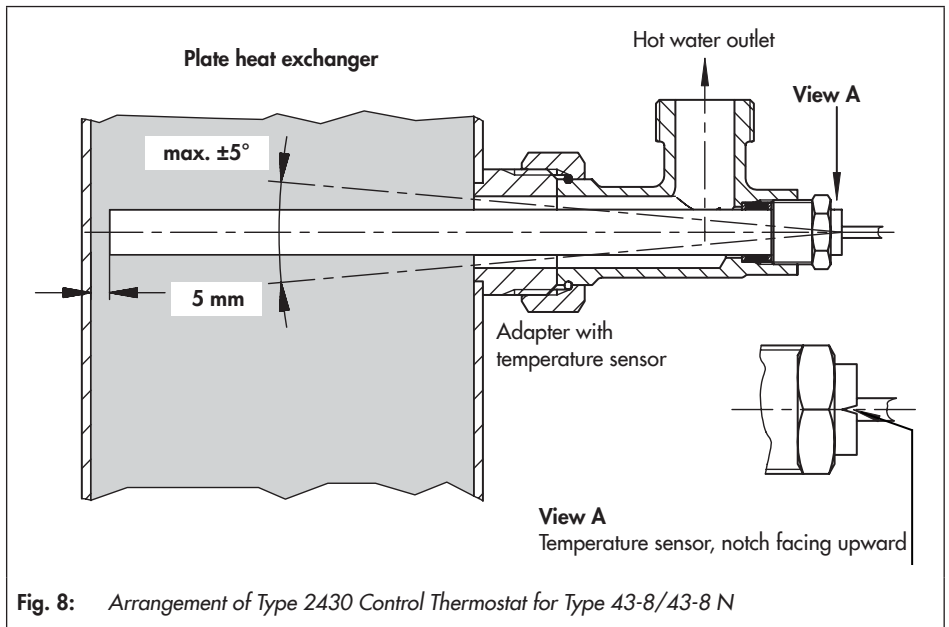

Fig. 8: Arrangement of Type 2430 Control Thermostat for Type 43-8/43-8 N
- The notch at the end of the sensor must point upward (see Fig. 8).
- Install the sensor pocket (F) in such a way that the sensor reaches horizontally into the hot water duct.
- After aligning the sensor, clamp it with the threaded pin (M). Observe the tightening torques specified in Chapter 7.1.